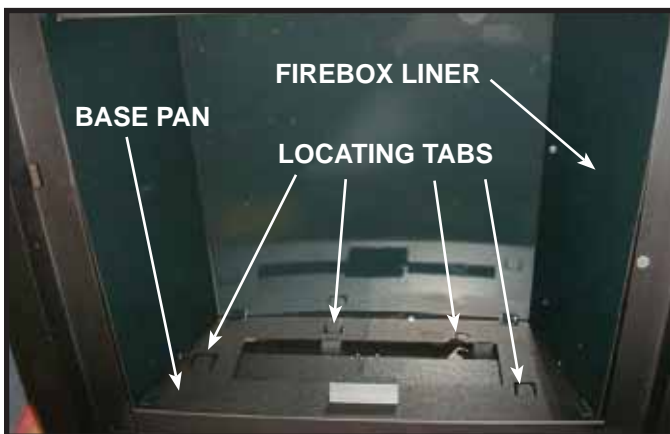

Figure 12.7
2. Fold down the log locating tabs (if bent up) on the base pan so they are parallel with the burner. See Figure 12.7.
3. Proceed to step 4 if the firebox liner is not being installed. Install the firebox liner by placing it on the base pan of the fireplace and sliding it back until it contacts the back of the fireplace. See Figure 12.7.